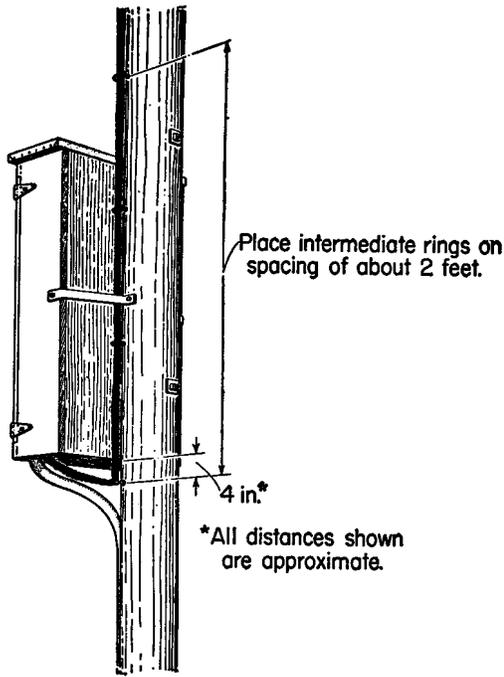

Fig. 4
2.04 When EA cable terminals are used make the bridling run as shown in Fig. 4.